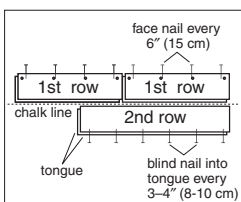

Figure 7
- Use the longest, straightest boards available for the first two rows. For random and alternate width products, use the widest plank for the first row. Align tongue of first row on chalk line. The groove should be facing the starting wall. Pre-drill 1/2" (13 mm) from back (opposite) edge, 1"-2" (2.5–5 cm) from each end, and at 6" (15 cm) intervals when possible (Figure 7). Fasten using 4 or 6d finishing nails or 1" (2.5 cm) pneumatic finish nails/brads. Countersink the nails.